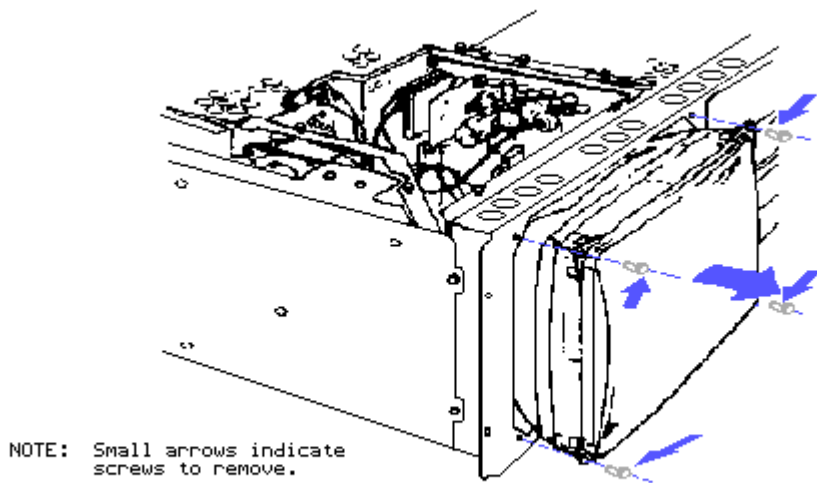

Figure 7-68. Removing the Four VDU Mounting Screws
9. Remove the four screws from the front of the video display unit (Figure 7-68).